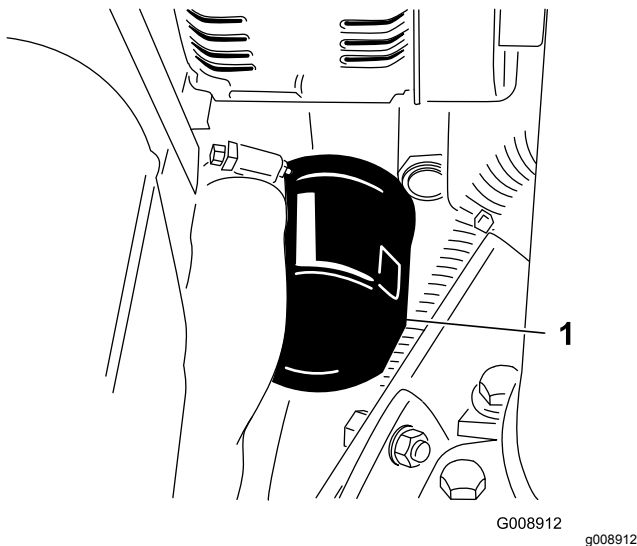

Figure 46
3. Remove the oil filter (Figure 46).